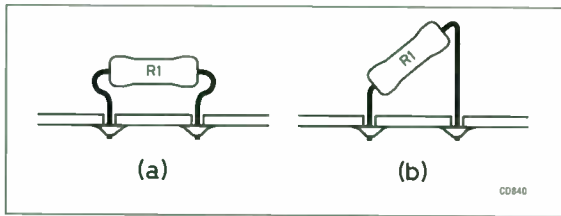

Fig 3.30. Alternative positions of R1
- Fit R1. The physical size of this component will determine how it should be fitted. A $\frac{1}{8}W$ component will lie flat on the board with no problems. Most $\frac{1}{4}W$ resistors will fit if the leads are bent very close to the body, rather more than 90° , and then opened out so that the two ends are parallel. See Fig 3.30(a). Even larger resistors must be mounted as shown in Fig 3.30(b). Solder and clip off surplus leads.
- The integrated circuit (IC) should be fitted next. If the pins are too far apart, hold the IC with the pins flat against the bench and bend slightly inwards, then repeat with the other four pins until the IC will fit. Carefully check the position and ensure that the notch and/or dot in one end is in the same position as in the layout diagram. This is most important – the IC will be damaged if it is reversed. Bend pins 1 and 5 outwards a little (on the track side) to stop the IC